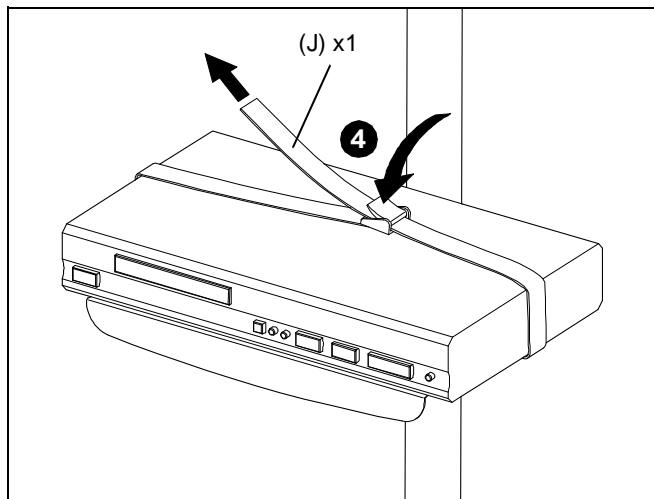

Figure 7
4. Pull strap (J) until tight around equipment and press clasp closed to secure. (See Figure 7)